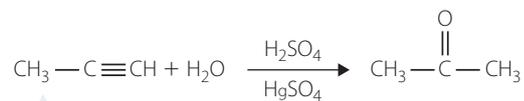

FIGURE 10.10 Addition of water to propyne to form propanone
The hydration of alkynes is catalysed by mercury(II) compounds and sulfuric acid. Addition of water to an alkyne will produce a ketone, as seen in Figure 10.10. The exception is hydration of ethyne that produces ethanal since a ketone cannot form with only two carbons in the chain.